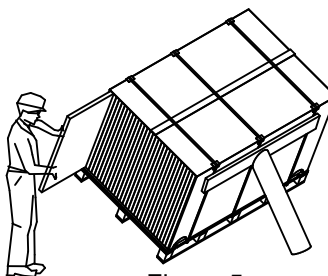

Figure 5
5. 此包装可以放置于倾斜角 $\leq 17^\circ$ 的地面。如果在非水平地面拆包，需要做好防倾倒措施，如图5。
Package could be put on the place that the tilt angle is not more than 17 degrees. When unpacking on non-horizontal place, measures should be needed to protect modules, as showed in Figure 5.